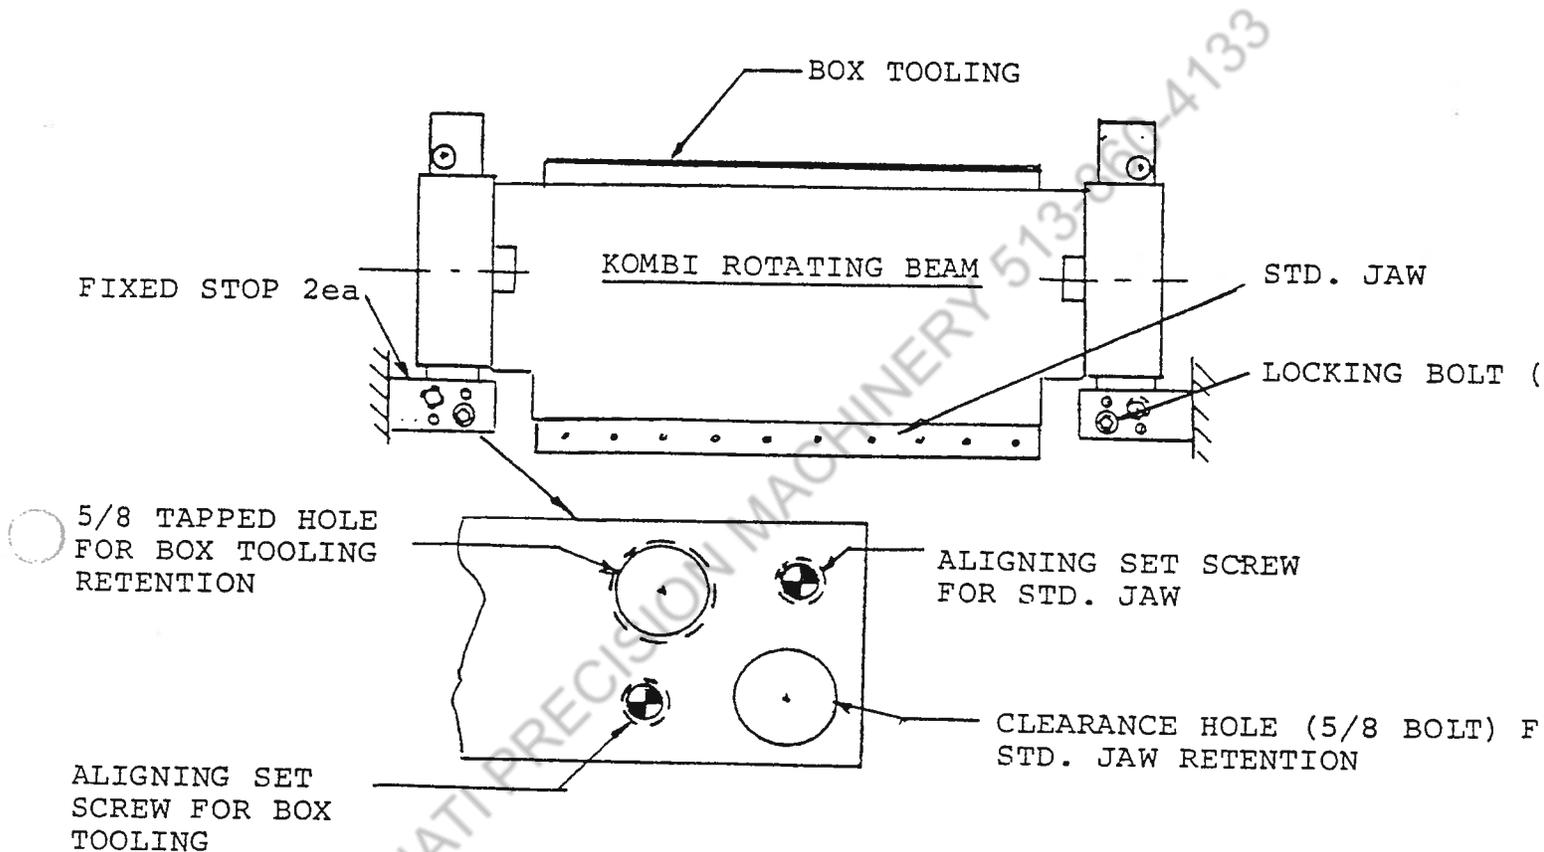

Figure 14: Kombi Beam Retention and Alignment
G. KOMBI OPERATION--Always raise kombi upper beam to maximum up position prior to rotating the beam. **WARNING:** An electrical interlock will prevent rotation of the kombi beam if the beam is not raised to the maximum elevation. Proceed as follows and refer to Figure 14: